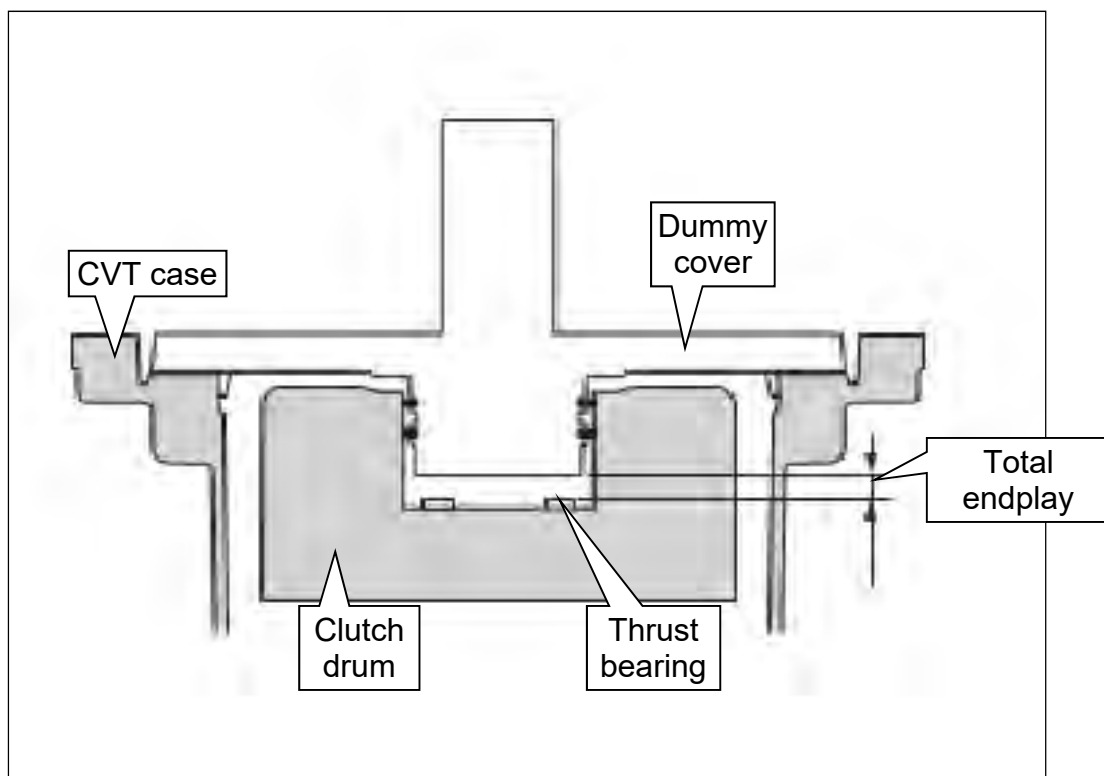

Figure 107
**IMPORTANT:** The clutch total endplay (Figure 107) must always be adjusted between the clutch drum and the dummy cover when a new sub-assembly is installed and is adjusted with thrust bearing thickness.